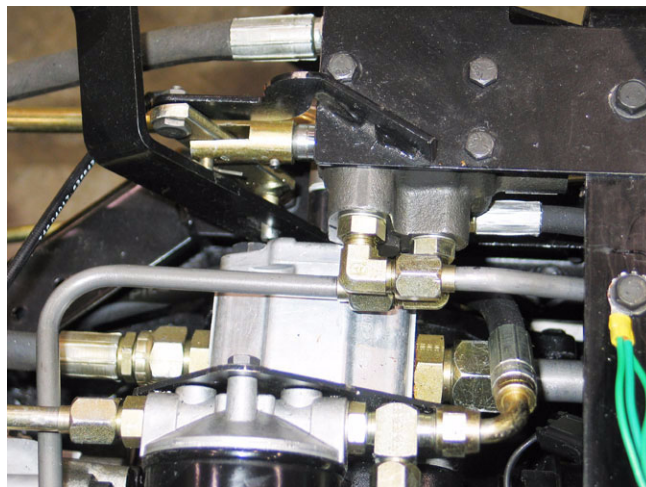

Figure 8.5
- 8.5. Orientation of the valve: See Figure 8.5.